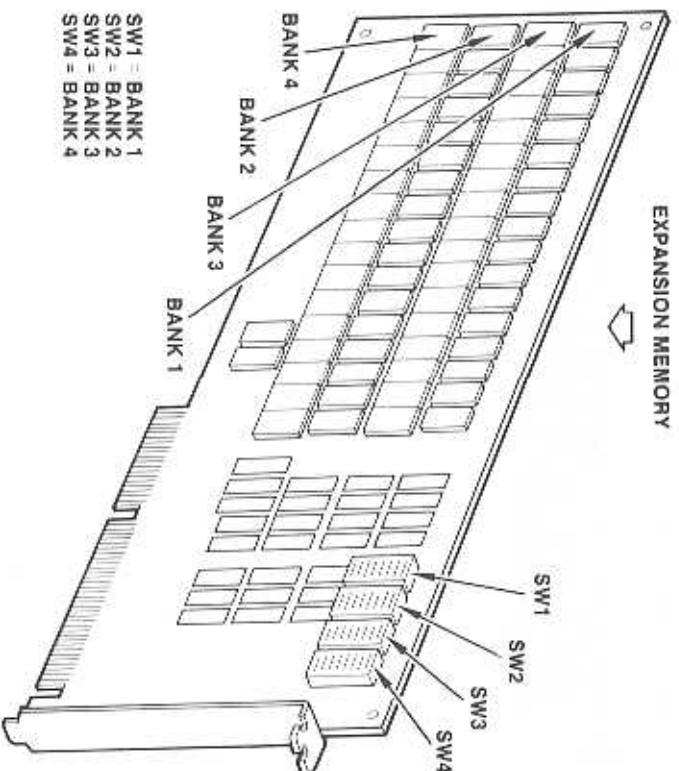
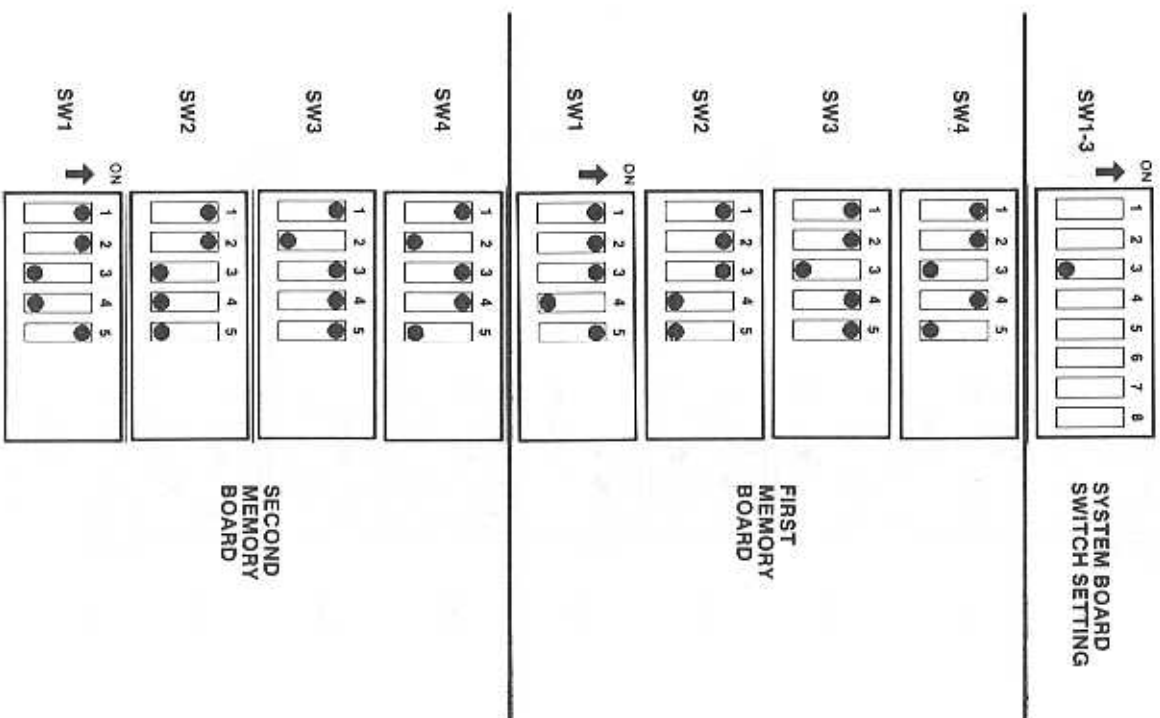

Figure 9-1. Memory Expansion Board
Figure 9-2. Memory Board Switch Setting When SW1-3 Is OFF
You can install one or two memory expansion boards. Each memory expansion board allows you to add 2M bytes of additional memory. This memory is divided into four banks of 512K bytes each. There are four switches on the memory board, one for each bank, as shown in Figure 9-1. Each switch determines the starting address for that bank of memory.
1. If the system board has been set for 512K or 640K bytes of user memory (SW1-3 OFF), set the switches on the memory board as shown in Figure 9-2. Figure 9-2 shows the settings for the first and second memory boards.
Switches SW1 through SW4 each control a different bank of 512K-byte memory as shown in Figure 9-1. Set switches SW1 through SW4 on the memory expansion board for the starting address of each 512K-byte block of add-on memory (refer to Table 9-1). Memory addresses must be set so that memory is contiguous. Using a ballpoint pen or small screwdriver, slide microswitches 1 through 5 either ON or OFF, according to Table 9-1, (and Figures 9-2 and 9-3).